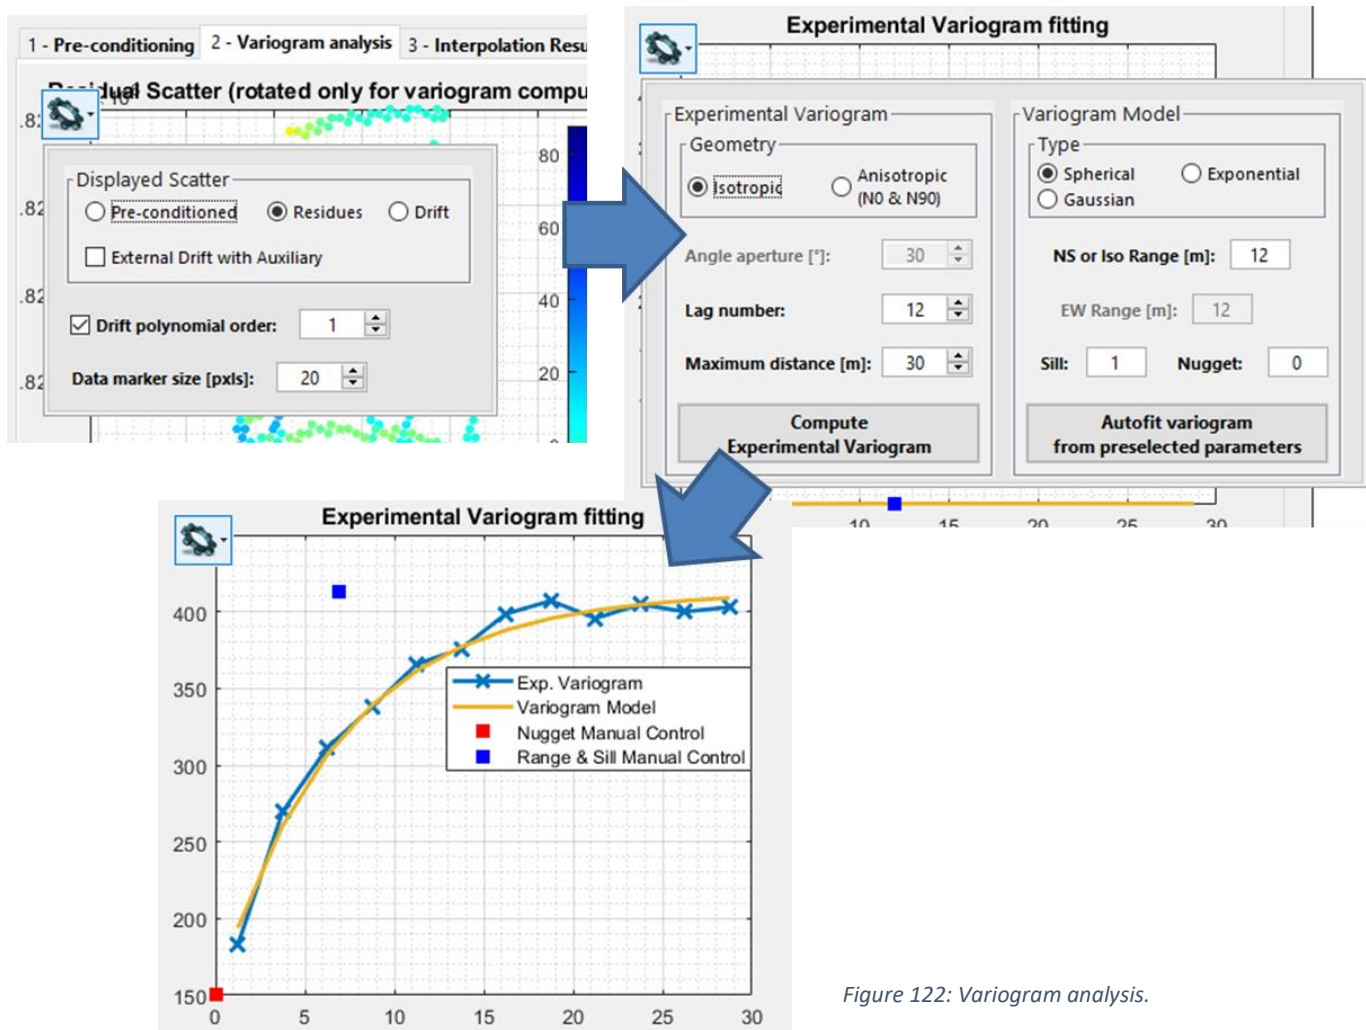

Figure 122: Variogram analysis.
Performing variographic analysis, in any case, as described by Figure 122, users must comply with the following workflow:
- Perform kriging with external drift (KED). See checkbox *External Drift with Auxiliary* in Figure 122 upper-left corner. Order of the regression between drift and data points could be tuned. KED is different than cokriging since covariance between inputs is not required. Additional facilities shall let users determine correlation between external drift and kriged variable.
Anisotropic kriging could be performed by ticking on the *Anisotropic (NO & N90)* radio button and adjusting *Angle aperture* value. See radio button *Anisotropic (NO & N90)* in Figure 122 upper-right corner. Users have then 2 variogram models to adjust on 2 experimental variograms. After tuning both variogram models, as per with the isotropic case, the *A – Process* button has simply to be pushed to run the interpolation (see Chapter 8.2.3.2).